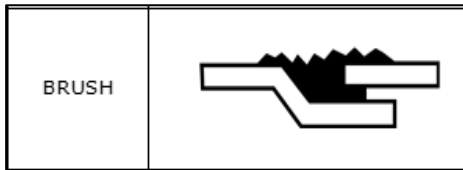

Figure 18
- Brush the seam sealer into the joint seams as shown in Figure 18